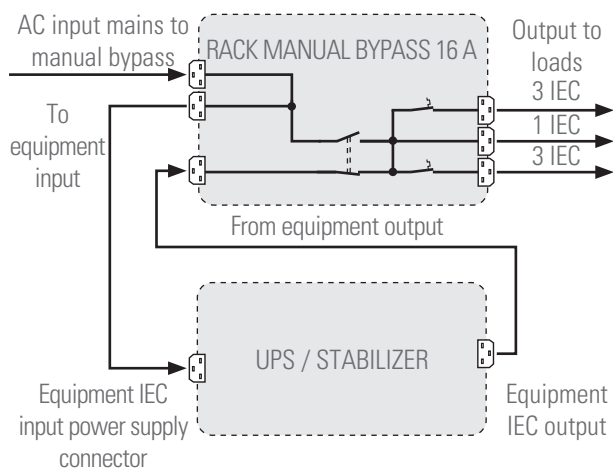

Fig. 3. Wiring between the UPS and the 3 kVA bypass.
- In correlation with Fig. 1 and 2, Fig 3 and 4 illustrations show the single line diagrams of both structures. The structure is identical in both figures, although there are some differences between models. The most important one is the auxiliary contact from the manual bypass switch, which comes from a microswitch located in the back side of the protection cover and connected to a signal connector internally. By means of the electrical connection with the supplied cable between this connector and the one available in several equipments like the UPS from TWIN PRO2 and/or RT2 series, when the protecting cover from manual bypass is removed, the UPS shifts from «Inverter output mode» to «Static bypass mode», considering that the system was on normal mode operating previously. Therefore, it makes easier the operating and avoids possible wrong manoeuvring that it could cause serious damages to the installation set, loads included.